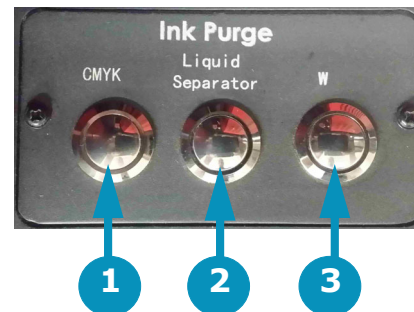

Figure 8-5: Manual Ink Purge Buttons
2. Use the manual Ink Purge buttons located in the carriage HOME compartment (See Figure 8-5). Then follow up with a head sweep performed from the EFI Pro 16h Control screen.